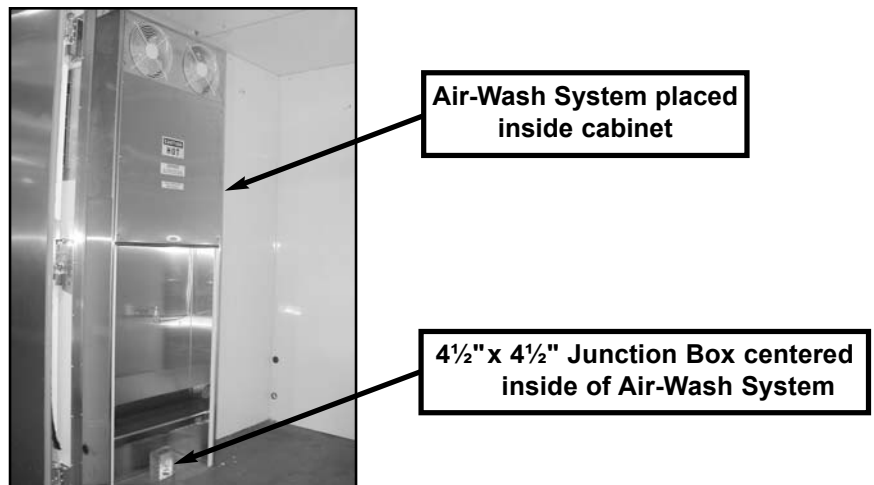

Figure 2
6. Put 4½" x 4½" Junction Box on Floor, and place centered inside Air-Wash System (***Note:** 4½" x 4½" Junction Box will be used to support Back Panel of Air-Wash System. Make sure it is very close to Back Panel!). See **Figure 2**.